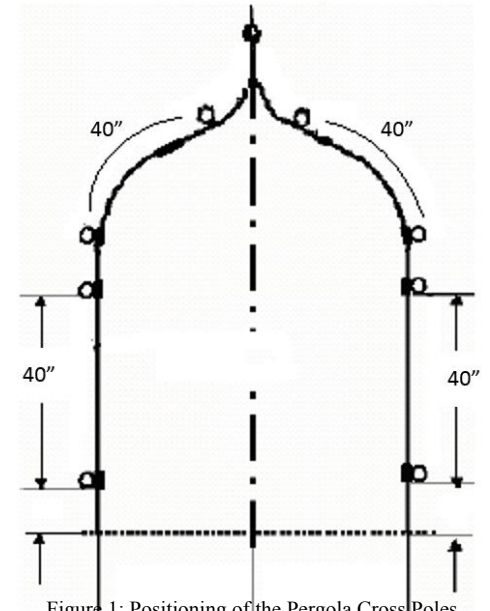

Figure 1: Positioning of the Pergola Cross Poles
- The second Pergola Cross Pole needs to be placed 40" below the top Cross Pole, to allow for the lattice infill as illustrated in Figure 1. This may require the second cross pole to be positioned on the join between the curve and the upright.